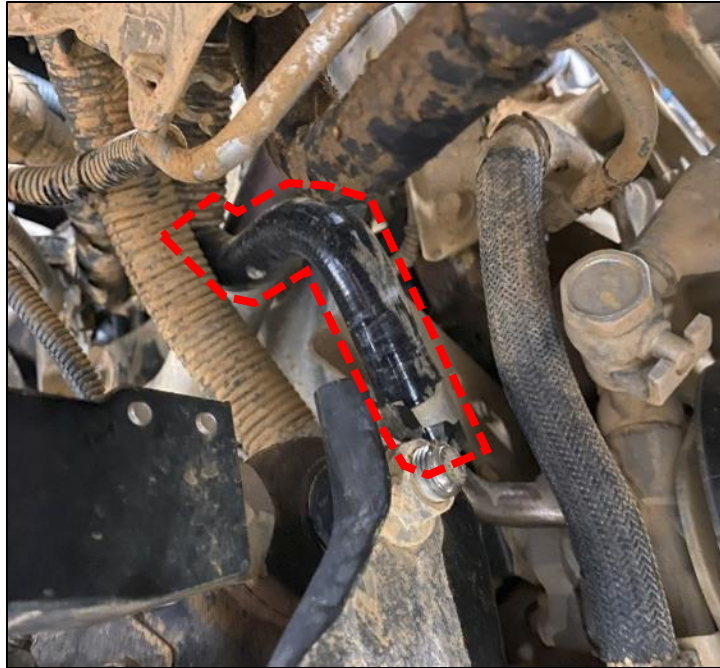

Figure 19
36. Locate the new Power Steering Hose. Using the OE Hose Clamps, install it onto the Power Steering Reservoir where the OE Hose was removed in *Step 10*. *Figure 19*.